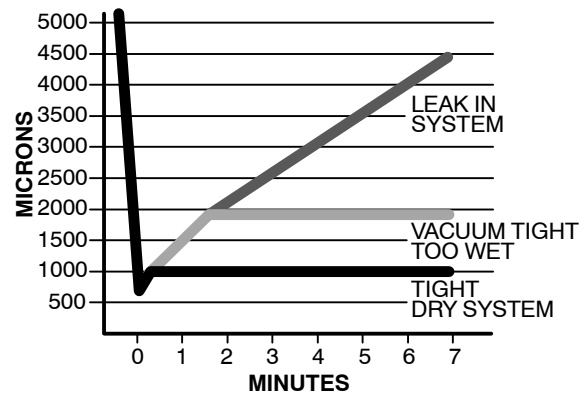

**Fig. 15 – Manifold**
3. Fully open the low side of manifold gage (see Fig. 15).